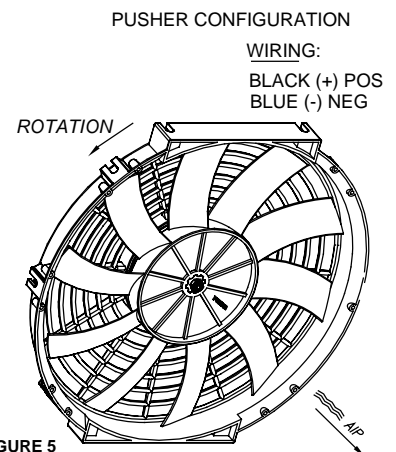

FIGURE 5
3. After seating blade, replace lock nut by turning clockwise. Pusher configuration should look as shown in figure 5. Note: Fan wiring changes to black (+) POS and Blue (-) NEG.